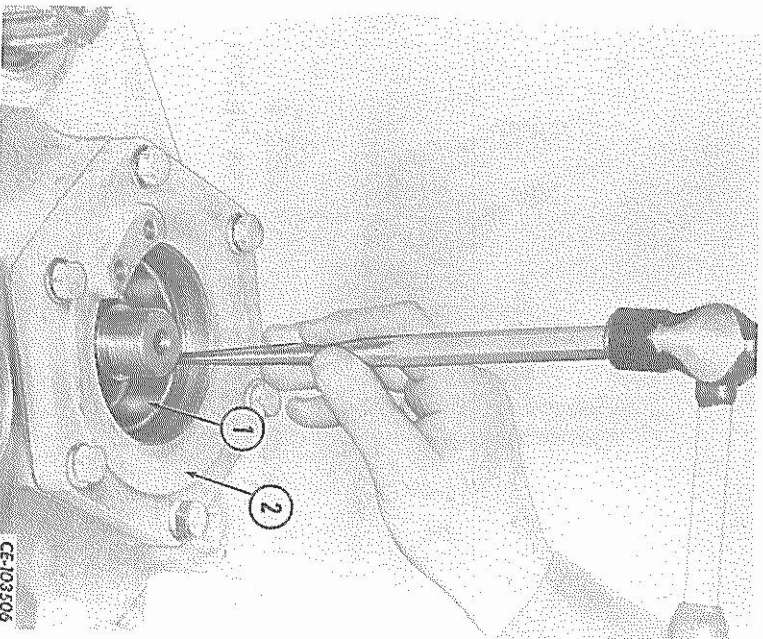

FIG. 82 — Installing Pinion Shaft Front
54. Install the inner bearing cup (1, Fig. 82) of the pinion shaft front bearing into the bearing cage (2) so the large diameter of the taper is up. Be sure the cup bottoms squarely in the cage.